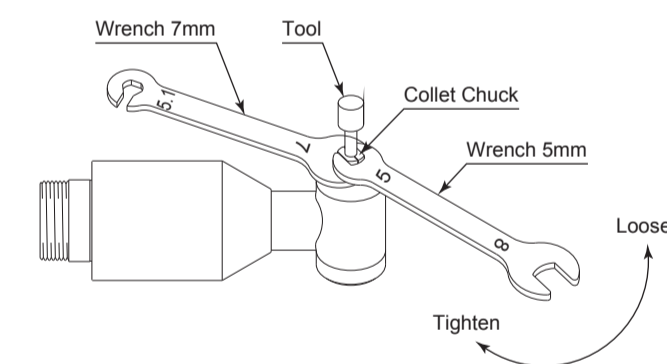

Fig. 3
- Remove the tool according to the section " 8. CHANGING THE TOOL " procedure above (Fig. 3).